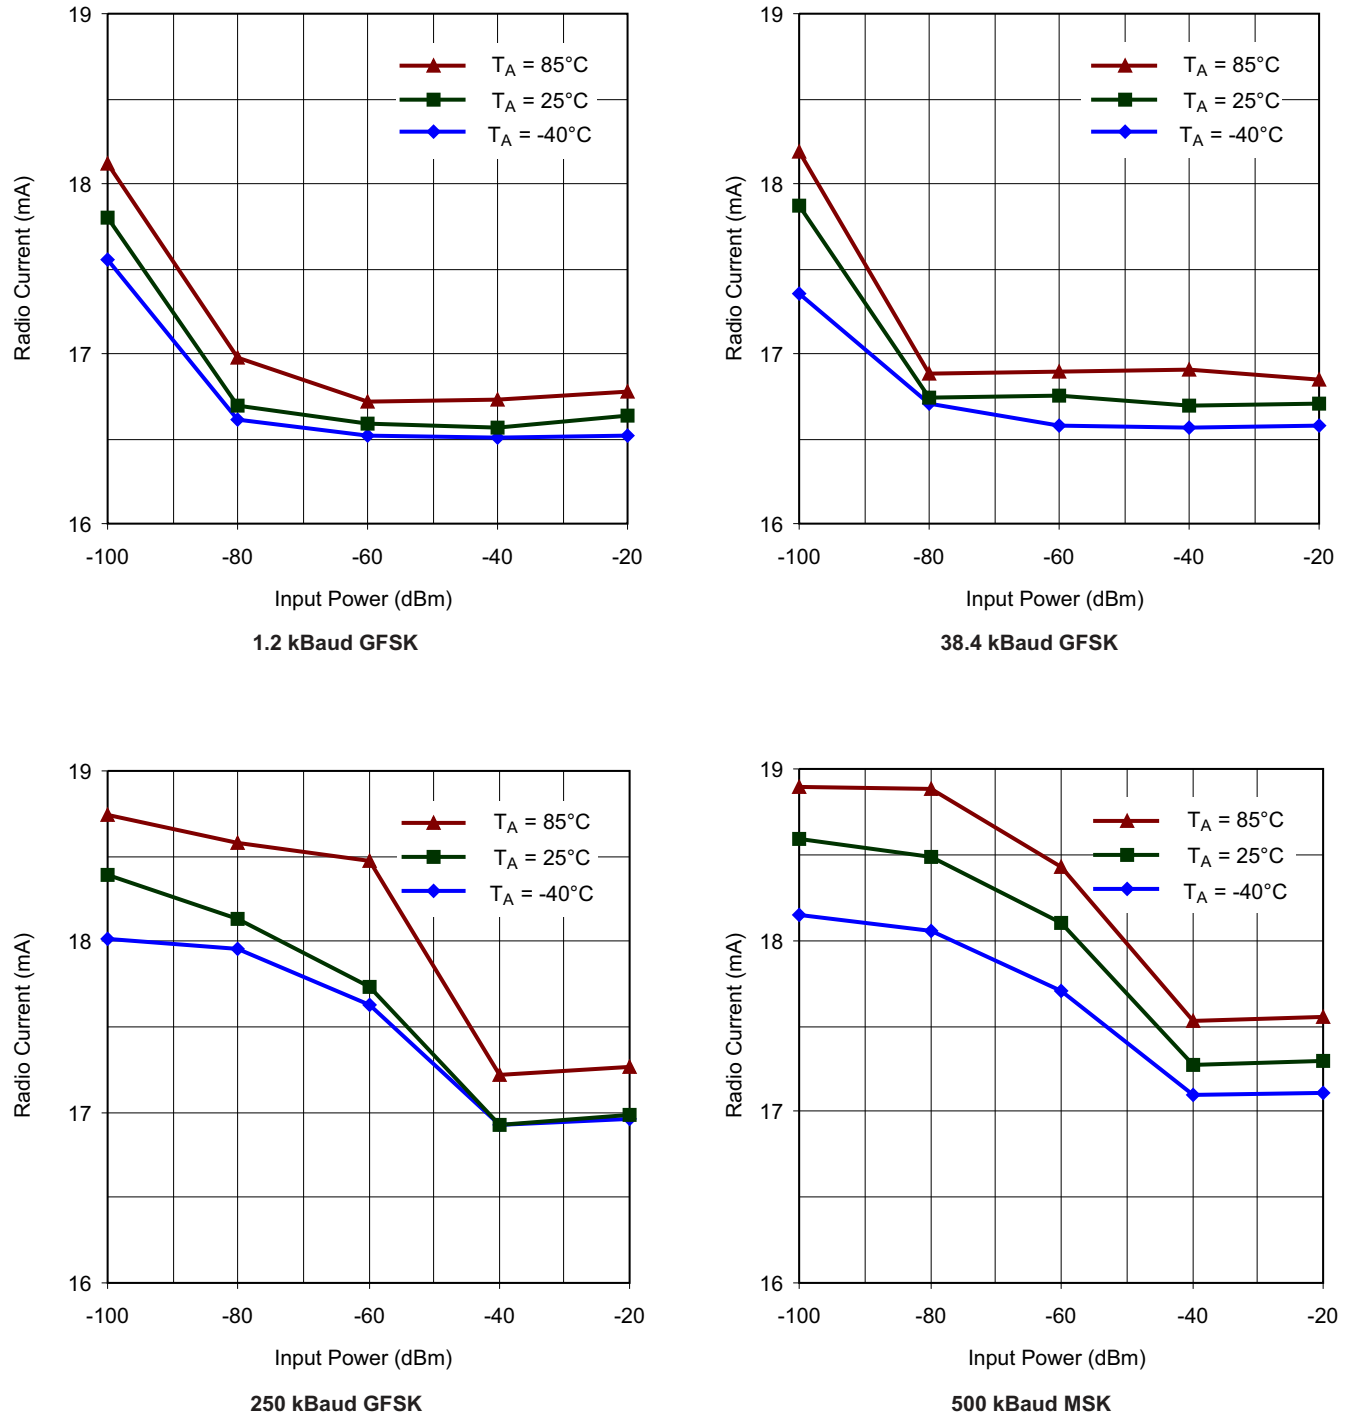

Figure 5-22. Typical RX Current Consumption Over Temperature and Input Power Level, 868 MHz, Sensitivity-Optimized Setting
- (1) All measurement results are obtained using the EM430F6137RF900 with BOM according to tested frequency range (see Table 7-1).
- (2) Reduced current setting (MDMCFG2.DEM_DCFILT_OFF = 1) gives a slightly lower current consumption at the cost of a reduction in sensitivity. See Section 5.53 through Section 5.56 for additional details on current consumption and sensitivity.
- (3) For 868 or 915 MHz, see Figure 5-22 for current consumption with register settings optimized for sensitivity.